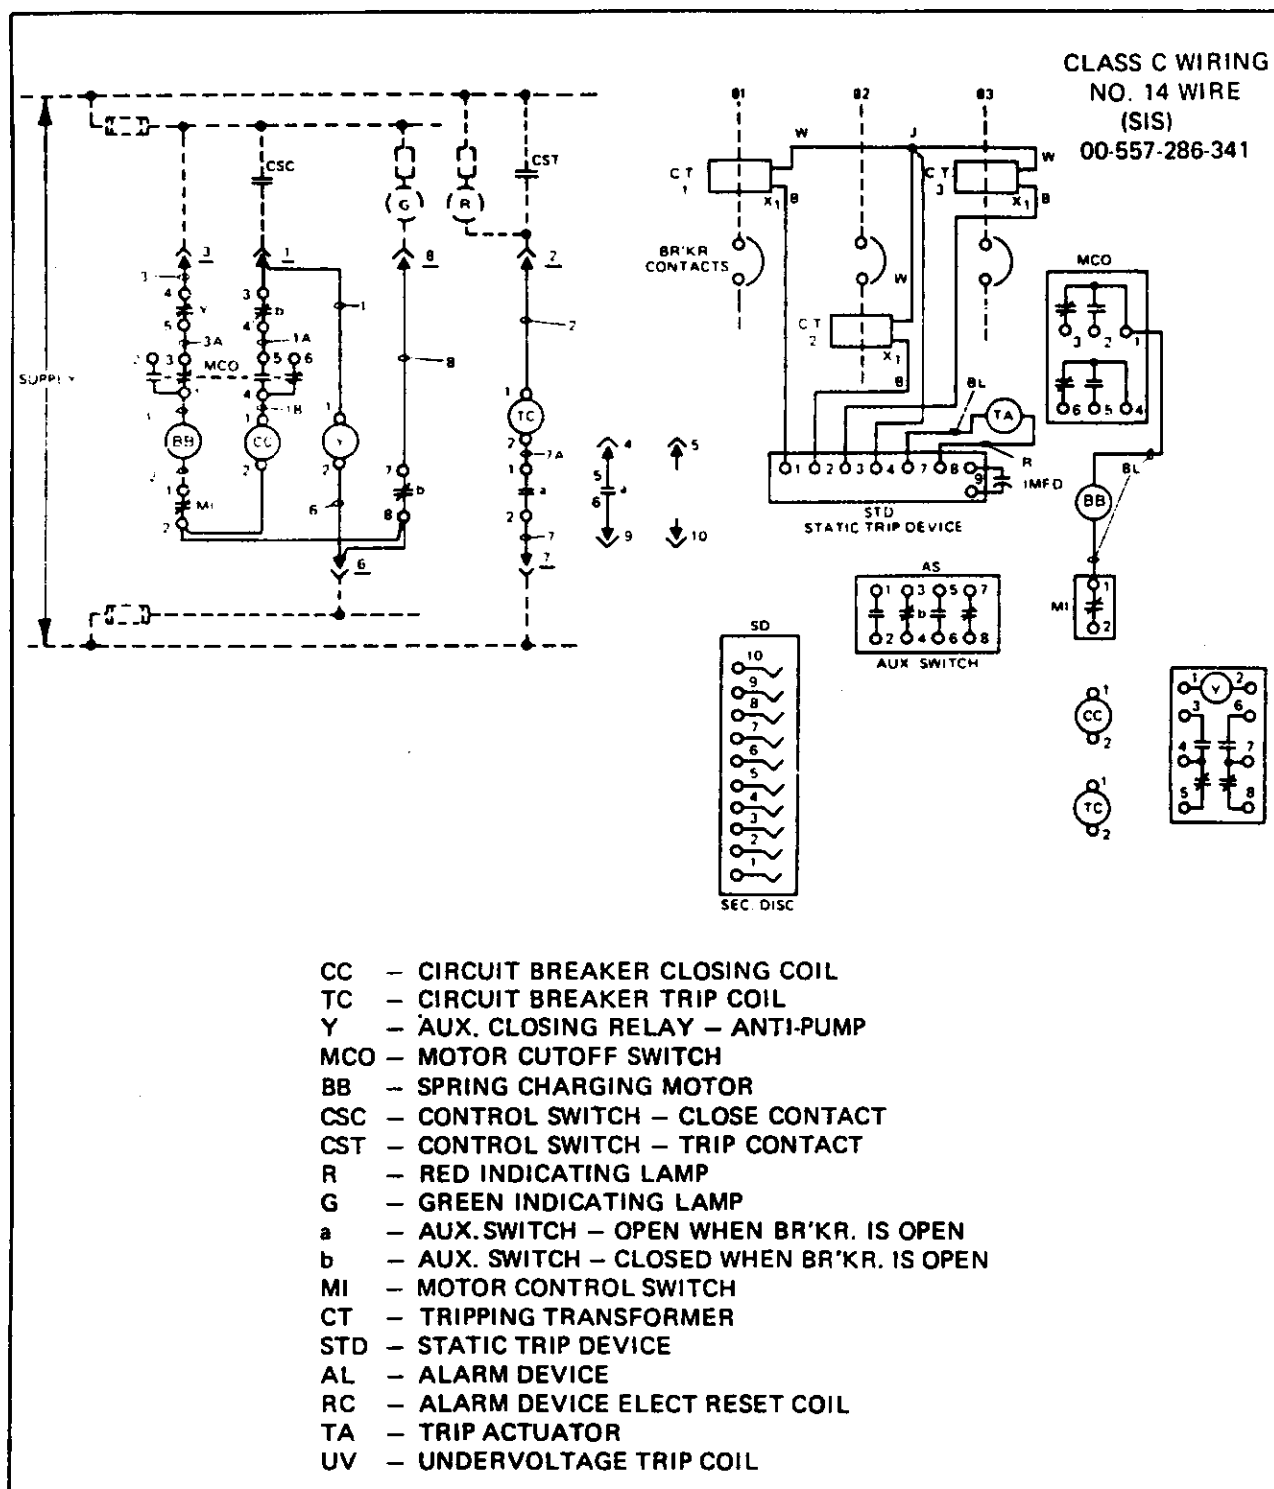

Figure 2. Typical Wiring Diagram — Electrically Operated Breakers
Tripping	Push in manual trip rod (48). OR If shunt trip is provided, operate remote trip control switch (CST). (See Fig. 2.)